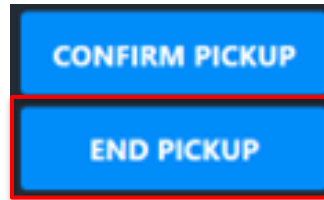

Figure 40: End Pickup
1. If you decide to pick up later, tap **End Pickup**, see Figure 40.